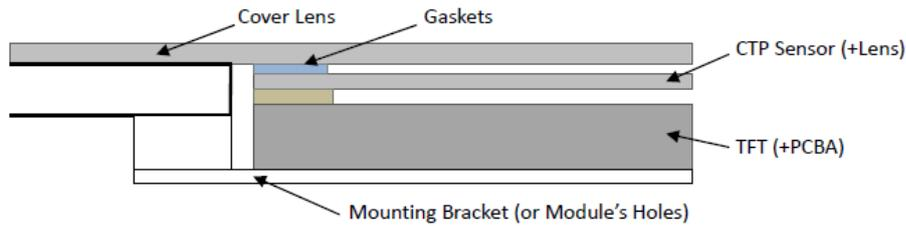

Figure 3
7.3 Additional Cover Lens Mounting (Figure 3)
7.3 覆加盖板（附图3）